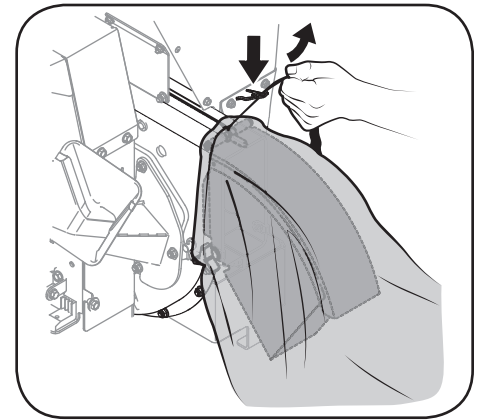

Figure 3-4
1. Place the opening of the bag completely over the chute deflector. See Figure 3-4.